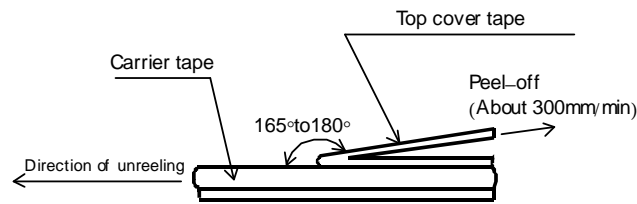
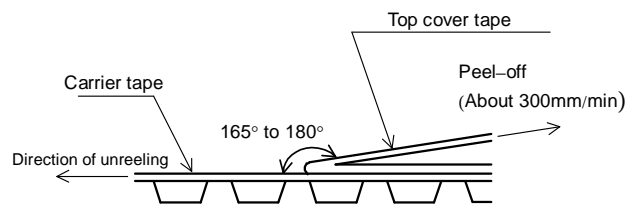

Figure-5
Figure-6
- 5). The peel strength of the top cover tape shall be with in 0.1N to 0.5N on the test method as shown in the following TWLC32: Figure-5, TWLC50,63: Figure-6.